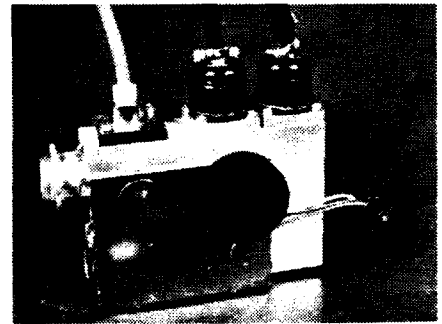

Figure 3-1.
- (1) Remove the rear and right side panels and take out loose packing at the top under the air compressor (if present).
- (2) Pull off the red plastic cap* from the side manifold of the cold trap housing, remember it is evacuated. (936-71: inlet manifold of the diffusion pump). Do not scratch the manifold tubing. Remove the red plastic cap* from spectrometer (shipped in separate box* in the container to prevent possible damage from shocks received in transit).
- (3) Now slide the spectrometer tube compression fitting over the side manifold tubing as far as it will go and hand tighten. This will hold the spectrometer tube securely in position and the O-ring within the fitting will provide a good vacuum seal. (Caution: Do not lubricate the O-ring, as lubricants tend to trap helium and give signals when there is no leak present.)
- (4) The vacuum pumps are shipped with the proper initial charge of oil, (always check oil level after pump has been running for at least 10 minutes).
- (5) Attach the three plugs as shown in Figure 3-1. The high voltage cable for the cold cathode gauge (on left) should be inserted carefully to be sure that the pointed terminal has entered the cable end.
- (6) Remove Leak Indicator from its shipping container. Unlock and open upper cabinet cover. Place the Leak Indicator unit in position, being sure to engage and seat both studs in the keyhole-shaped slots. Tighten thumb screw and make electrical connection.